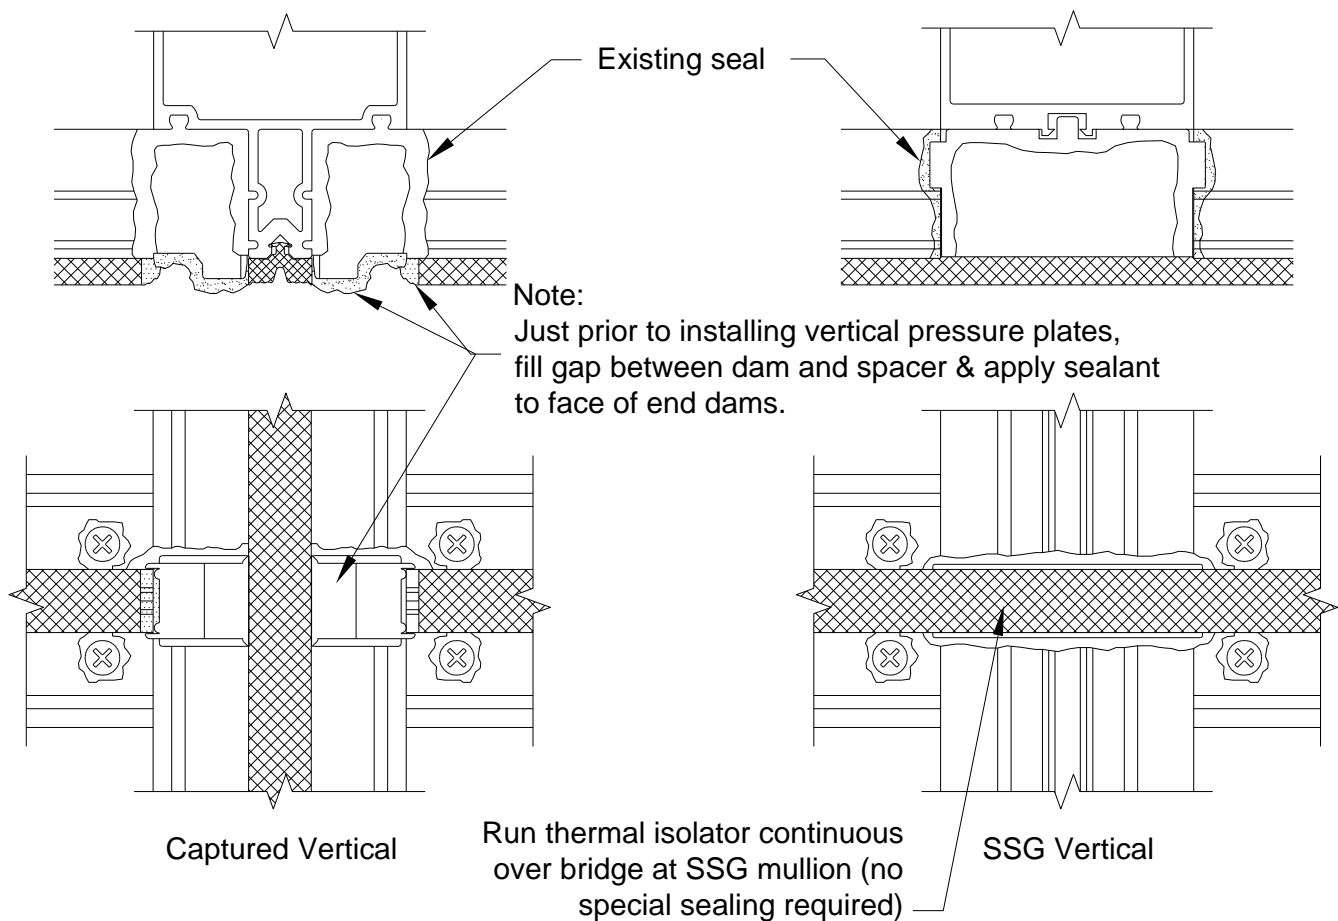

Figure 42: Sealing for Pressure Plates
- 19.3 Prior to installing vertical pressure plates, apply sealant to the face of each horizontal zone plug. See Figure 42. Vertical pressure plates and face caps must be installed before the horizontal pressure plates are applied.